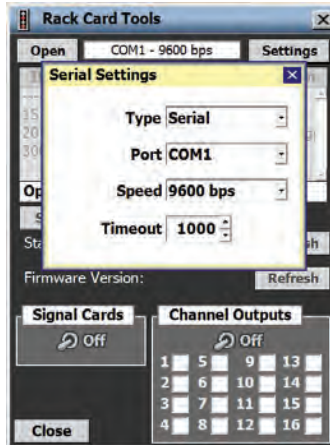

Figure 10.4 - Rack Card Tool Serial Settings
- 1 Click on the **Settings** button and select the correct communications port and baud rate (see Figure 10.4).